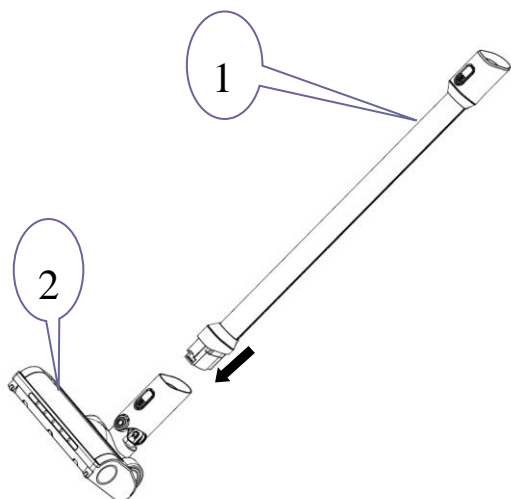

Figure 3-1
3.1 Attach the aluminum wand (No.1) to the floor power nozzle connector (No.2) as shown. Unit release key (No.3) clicks in place properly; see Figures 3-1 and 3-2.